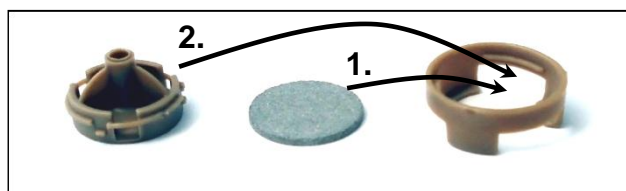

Figure 6: Eluent filter components
2. Assemble the eluent filter (figure 6).